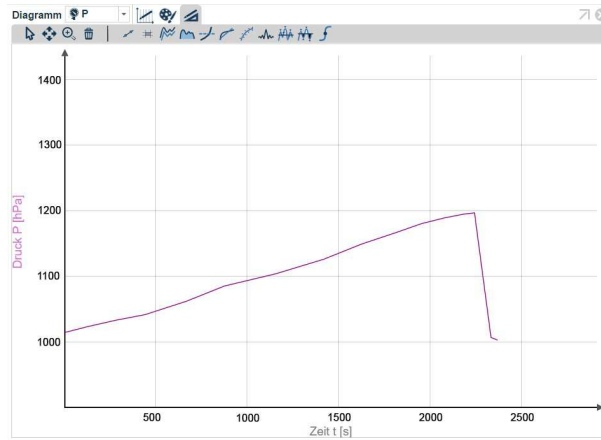

Fig. 4: Measurement result at room temperature
- **Experiment 2:** Under the influence of cold, the metabolism of the yeast is slowed, which can be seen particularly clearly at the beginning of the experiment. Hardly any carbon dioxide is released. When the ice melts and the temperature rises slowly, the CO_2 production resumes. This experiment shows that glycolysis is temperature-dependent (Fig. 4).